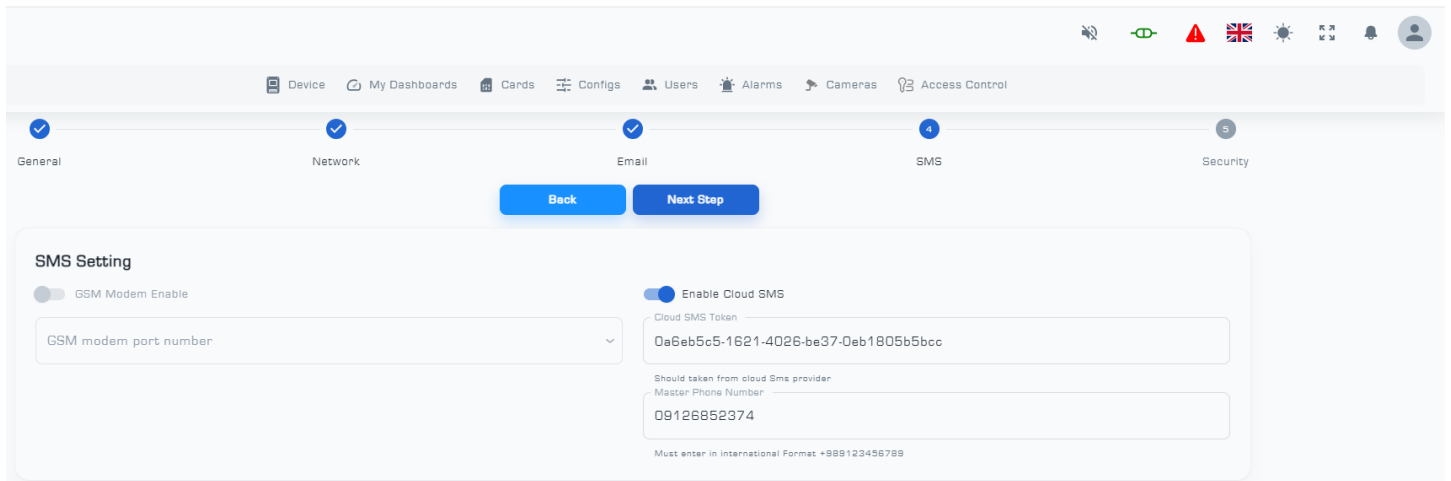

Figure 17: SMS settings
- The fourth stage involves configuring SMS settings, either through the device itself or via a cloud SMS service (Figure 17).